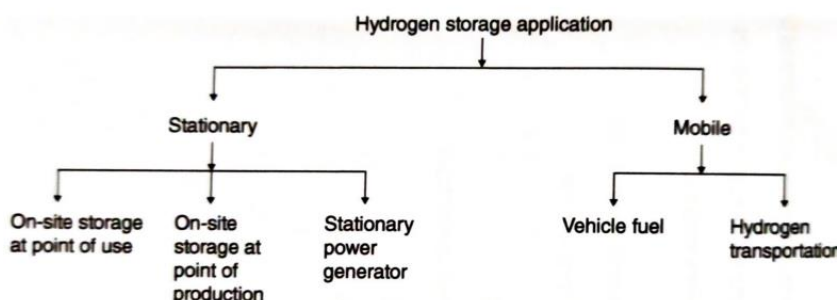

Fig. 1.14: H₂ Storage as per applications
2. **Storage:** Hydrogen is required in large amounts for certain applications. In such cases, it is necessary for the hydrogen release time to be kept very short. In addition, a controlled rate of hydrogen storage is needed for specific uses. The capital and operating costs of hydrogen are decided based on the needs of a particular application. In general, hydrogen applications can be classified as either stationary or mobile (Fig. 1.14). Based on the use, the required level of hydrogen purity may be selected.